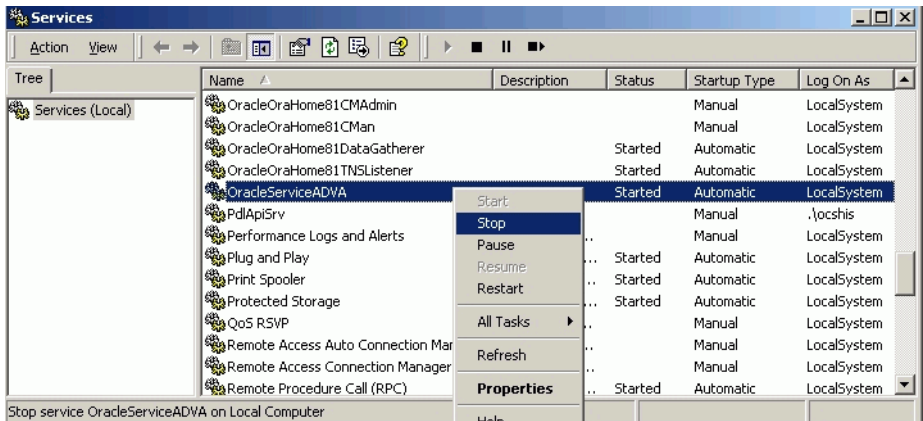

Figure 422. Stopping OracleServiceADVA
2. Scroll to the OracleServiceADVA service, right-click and choose **Stop** from the context menu. Figure 422.